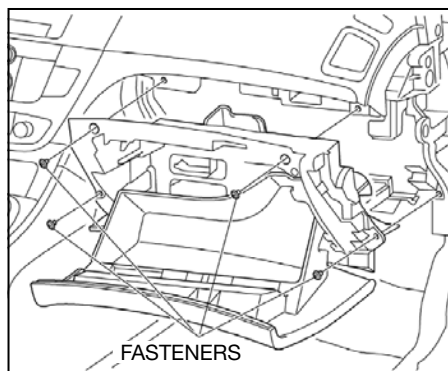

Fig. 22
2. Remove glove compartment fasteners and glove compartment (see Fig. 22).